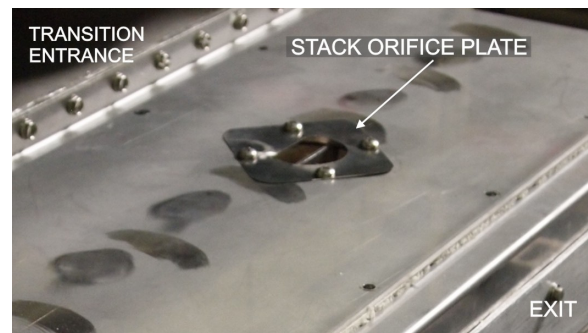

Figure 4-36 Transition Tunnel Stack Orifice Plate
**INSTALLATION NOTE:** If the stack machine screws are removed, please make sure the stack orifice plate is reinstalled with small opening toward furnace entrance (see Figure 4-36 for orientation of the stack orifice plate).